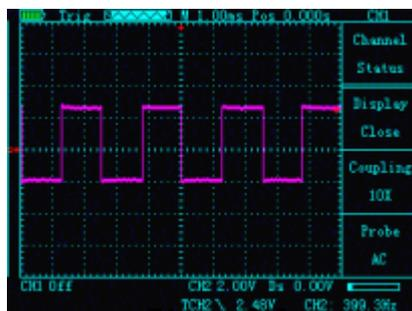

Figure 2-8
- If you set the vertical direction 2.00V/div,press"CH1"→ "▲"or "▼" to adjust the vertical volts / division,press "◀" or "▶" to move up and down the entire waveform.As Figure 2-8